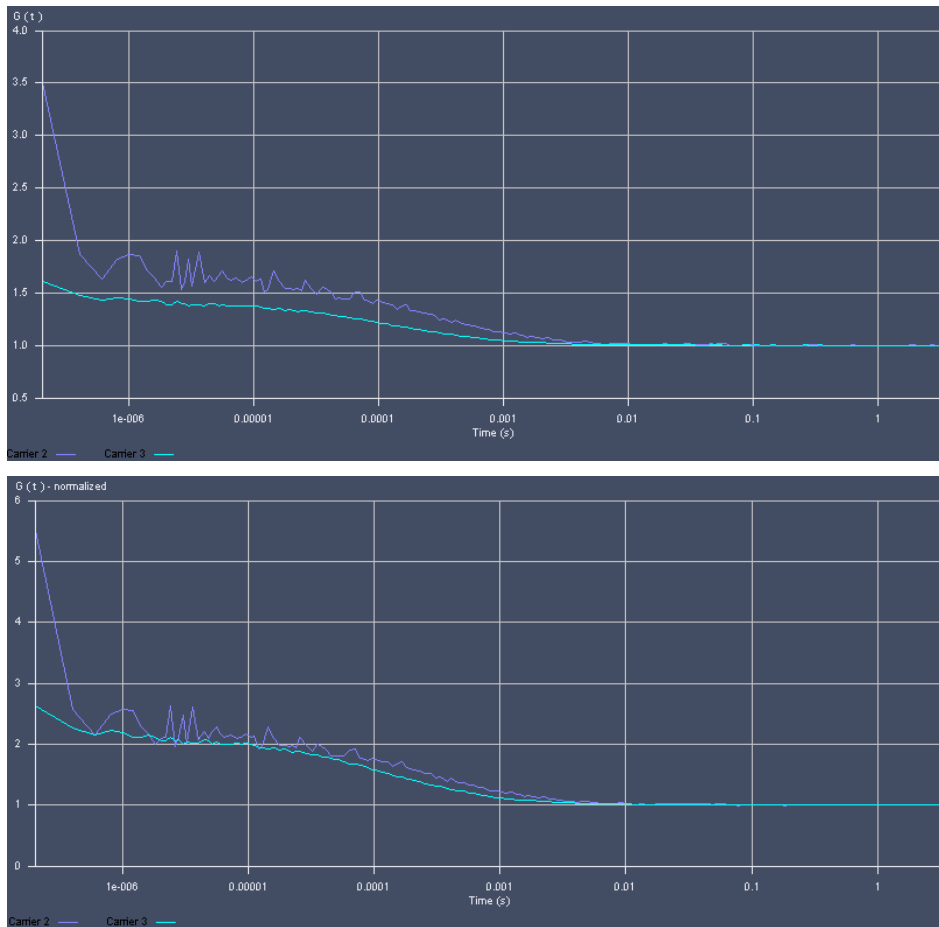

Fig. 347 The Correlation Curve window in normal (upper graph) and normalized (lower graph) display
- Selection of **Normalize** will normalize the curves to 2 (Fig. 347):